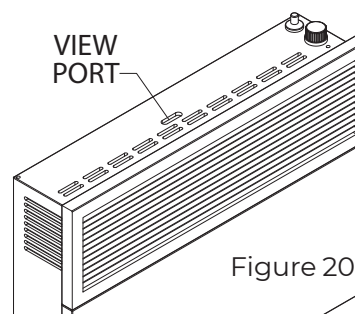

Figure 20
- **Pilot and Burner** - Periodically visually check the pilot and burner flames (view flames through view port). The correct flame pattern should be viewed by looking through the view port on top of the unit (Fig. 20).